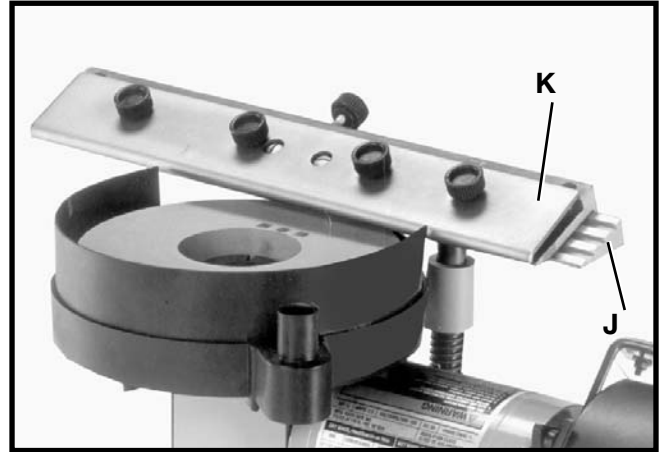

Fig. 41
5. Fig. 41, illustrates sliding tool rest (K) in position on tool rest base (J).